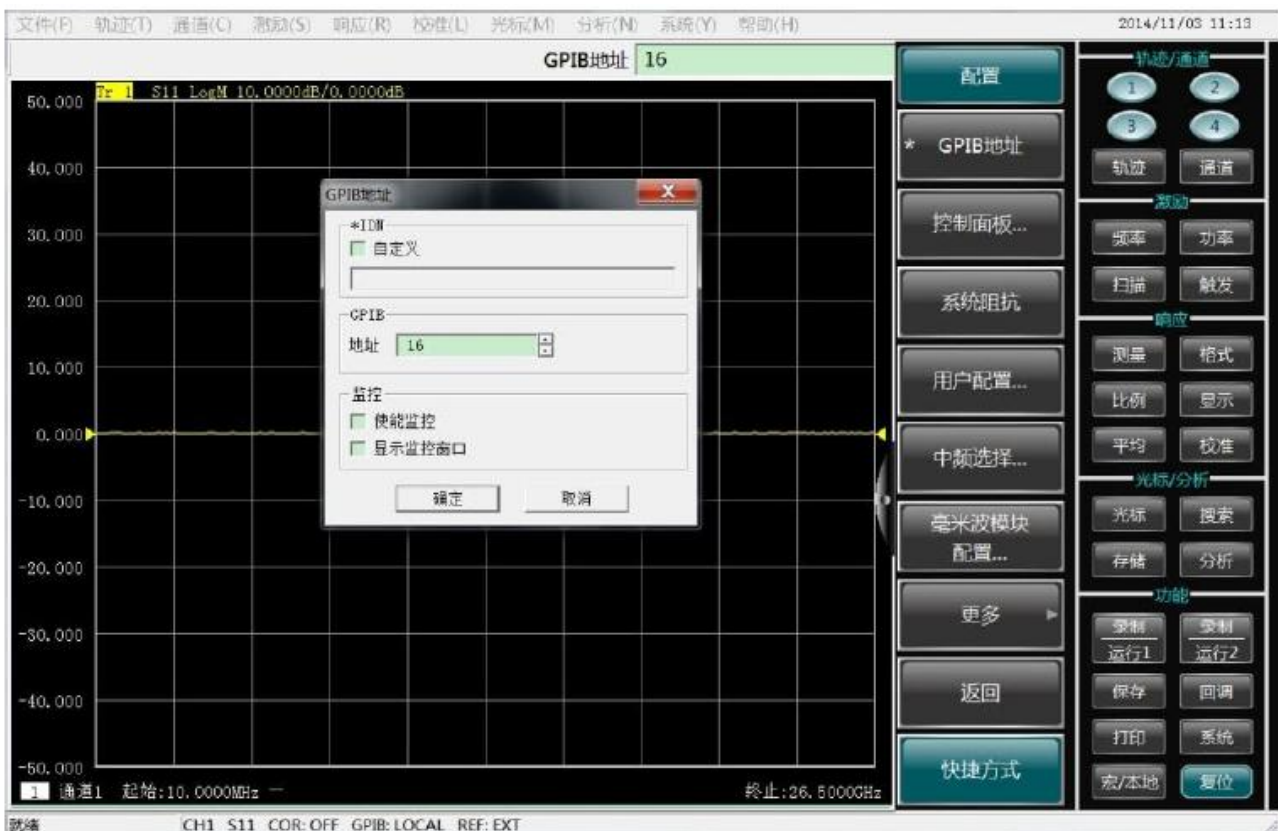

Fig. 9.9 GPIB Interface Setting
Press [System] > [Configuration] > [GPIB address (G)...] to enter the interface shown in Fig. 9.9. Modify the GPIB address in the [Local GPIB address] input box through the keyboard and mouse or number keys of the front panel.